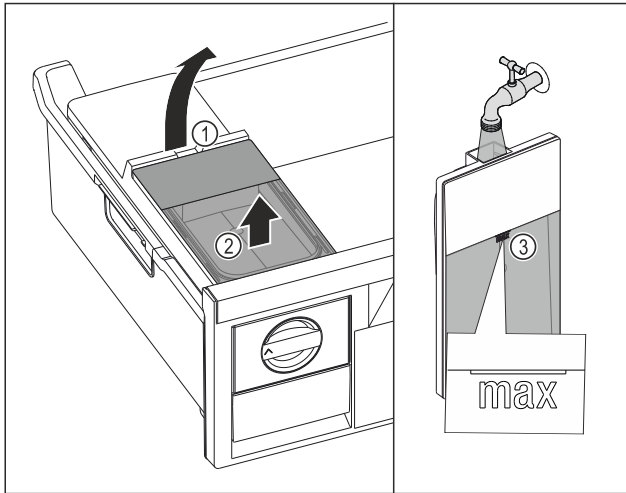

Fig. 69
- ▶ Lift the water tank at the recess Fig. 69 (1).
- ▶ Remove the water tank by lifting it upwards. Fig. 69 (2)
- ▶ Fill the water tank with drinking water up to the mark Fig. 69 (3).